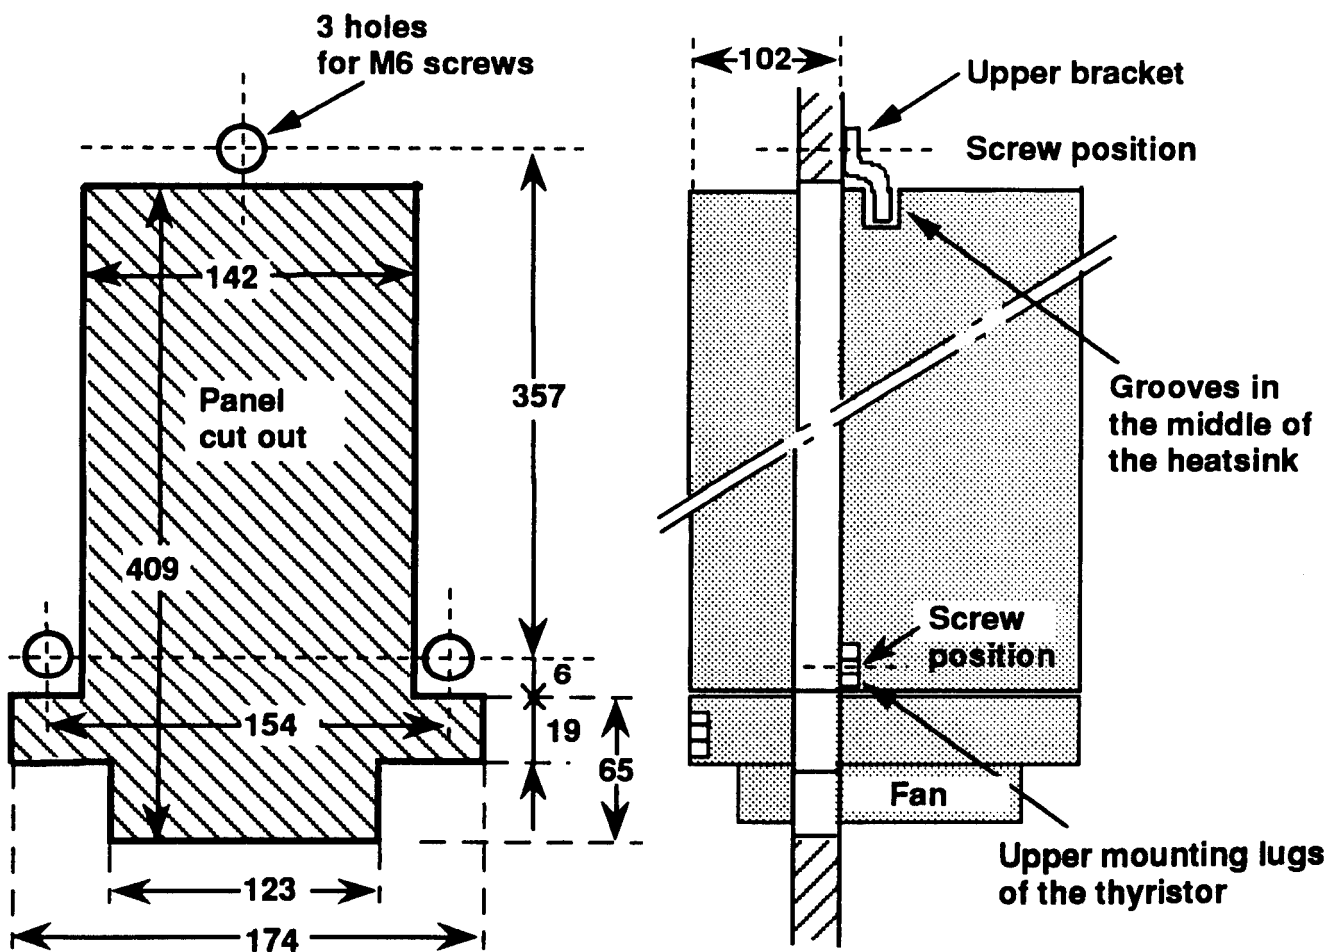

Figure 2.4. Drilling dimensions, panel cut-out and mounting of a convection cooled unit, through panel mounting
- a. Fit the **two** lower **M6** screws in the panel. Ensure that the drilling dimensions, (see fig. 2.4), are respected.